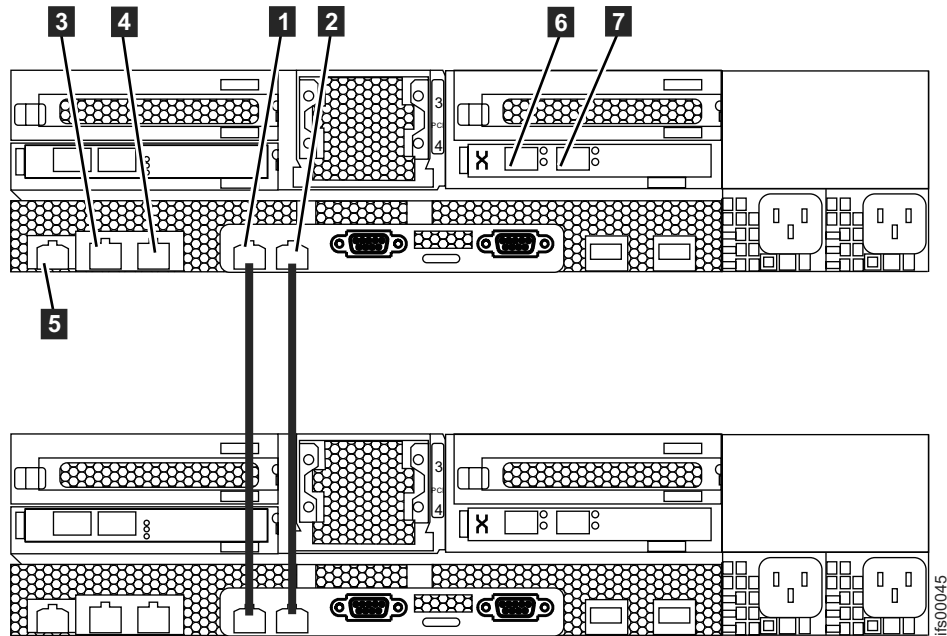

Figure 40. File module Ethernet direct connections.
This task assumes that your initial planning has determined where the Ethernet cables are to be located. The Storwize V7000 Unified control enclosure requires at least one and a maximum of two 1 Gbps Ethernet connections. Refer to Figure 38, Figure 39 on page 50, and Table 16 on page 50. For the file modules, the first two 1 Gbps Ethernet ports labelled **1** and **2** in Figure 40 on page 51 are used for internal communications between the file modules. The third and fourth 1 Gbps Ethernet ports are used for management and data (if needed). All 10 Gbps Ethernet ports are dedicated to data. Management cannot be performed over the 10 Gbps Ethernet. Refer to Figure 40 on page 51 and Table 17 on page 51.
If you encounter that situation, change the service IP addresses on the new nodes before connecting the Ethernet cables. For details, see Figure 40 on page 51 or see the *Storwize V7000 Unified Problem Determination Guide* PDF on the DVD for further information about setting service IP addresses using a USB flash drive.
- Connect an Ethernet cable from Ethernet port 1 on the first file module to the first Ethernet port on the second file module. Refer to Figure 40 on page 51 for port locations.
You have two 10 Gbps Fibre Ethernet ports available for host connections from each file module. The ports are on the PCI card located in slot 4. Connect your network cables to the Ethernet ports in these slots as applicable. Refer to Figure 40 on page 51.